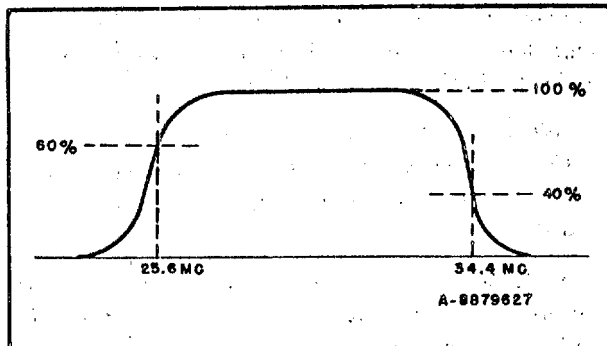

Figure RM-2—30 mc IF Response Curve
c. Connect the sweep generator to 2L17, ground 2V3-1, connect alignment jig (test equipment item 27(c)) to the bottom end of 2C27, and attach the scope to the alignment jig. With the scope gain on maximum, adjust the sweep generator output for the minimum value providing an adequate picture. Align 2L20, 21 and 22 as above except place the 25.6 mc marker at the 60% response point and the 34.4 mc marker at the 40% response point as shown in figure RM-2.